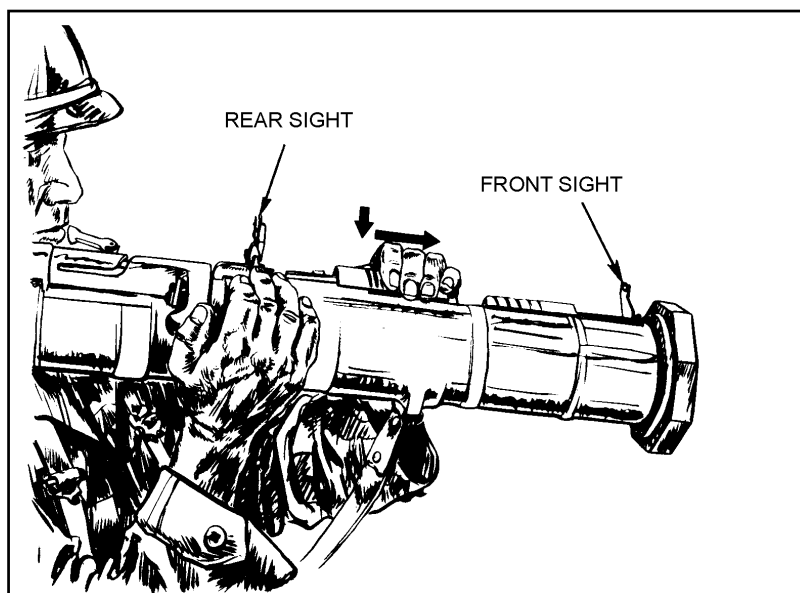

Figure 3-15. Opening and adjusting the sights.
- e. With the AT4 on your right shoulder, stabilize it with your left hand and open the sights with your right hand. Press down and pull backward on the front sight cover until the front sight pops up (Figure 3-15), then press down and forward on the rear sight cover until the rear sight pops up. The rear sight should be no less than 2 1/2 inches and no more than 3 inches from your eyes.